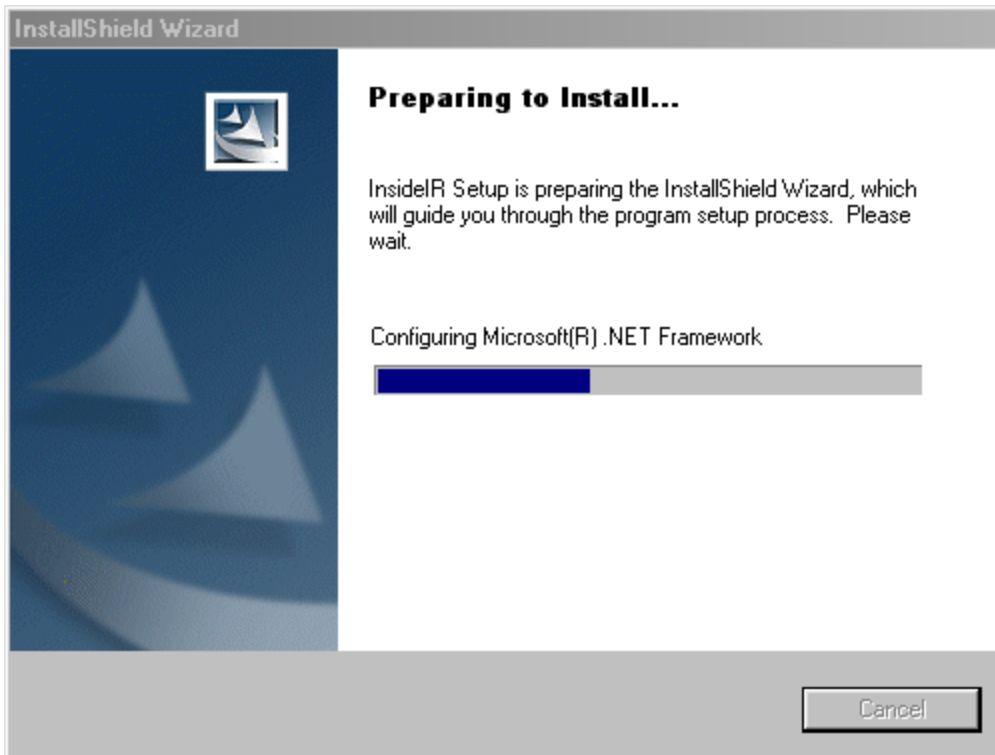

Figure 18. Will configure Microsoft®.NET Framework
- Insert the USB connector on the cord to the USB port on your computer (see Figure 18).